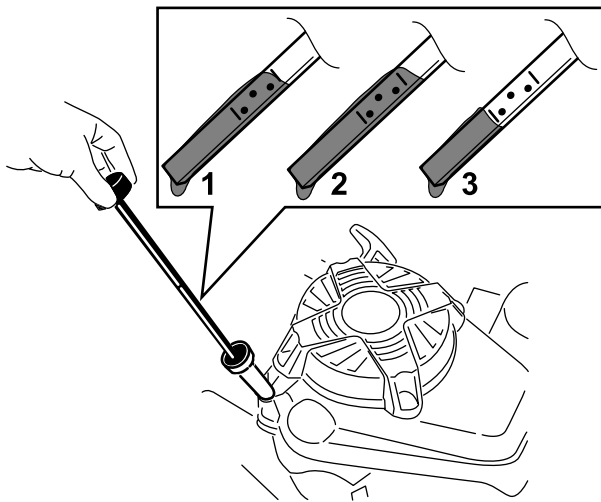

Figure 23
- Remove the dipstick by rotating the cap counterclockwise and pulling it out (Figure 23).
- Read the oil level on the dipstick (Figure 23).